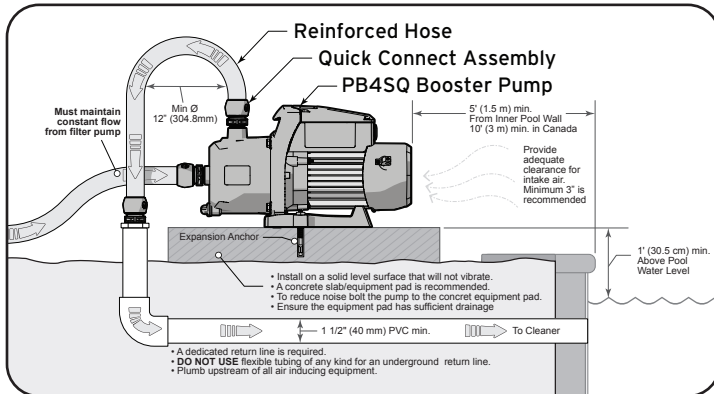

Figure 3. Location Requirements
- The pump along with all other circulation equipment must be installed at least 5' (1.5 m) from the inner pool edge. See Figure 3.
- The pump must be placed on a solid foundation that will not vibrate. See Figure 3.
- Secure the pump by bolting it to the equipment pad. This will also have the added benefit of helping to reduce vibration noise. See Figure 3.
- Return line should be rigid PVC at 1 1/2" (40 mm) Minimum. See Fig. 3
- Install the booster pump within 1' (30.5 cm) of the pool surface. See Fig. 3
*Assumes three (3) copper conductors in a buried conduit and 3% maximum voltage loss in branch circuit. All National Electrical Code® (NEC®) and local codes must be followed. Table shows minimum wire size and branch fuse recommendations for a typical installation per NEC.
2. Ensure that the pump is installed and firmly attached to a solid foundation. See Figure 3.